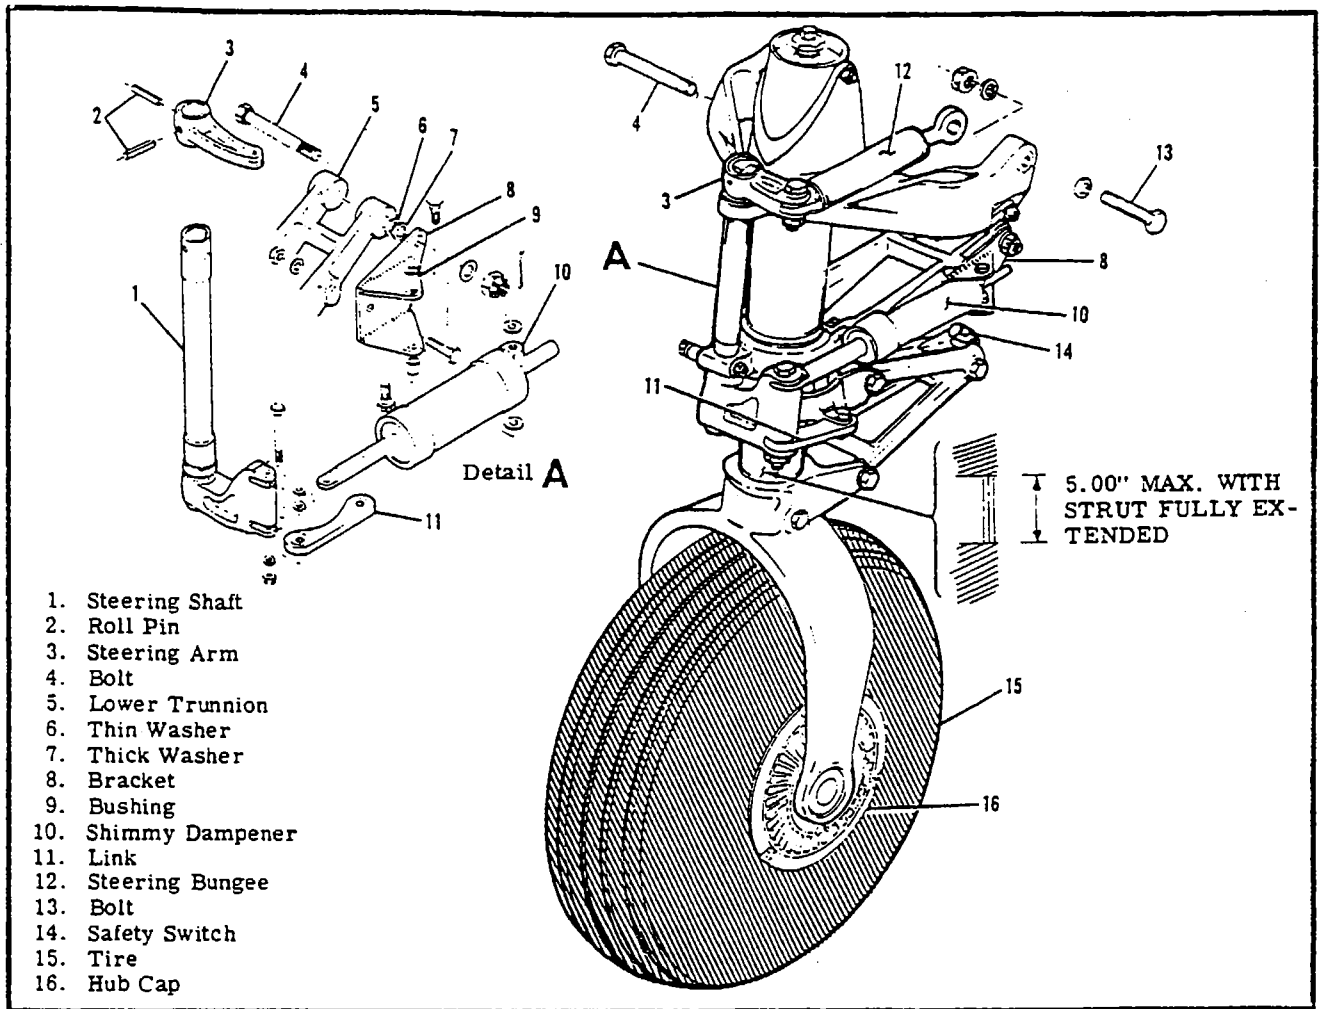

Figure 5-14. Nose Gear Installation
- h. Remove trunnion bolts (items 4 and 13, figure 5-14.)
- a. (Refer to figure 5-14.) Remove torque links (17). Note positions of washers, shims, spacers, and bushings.
- b. (Refer to figure 5-14.) Remove shimmy dampener (10) and steering bungee (12).
- b. Install trunnion bolts (items 4 and 13, figure 5-14.)
5-93. SHIMMY DAMPENER REMOVAL. (Refer to figure 5-14.)